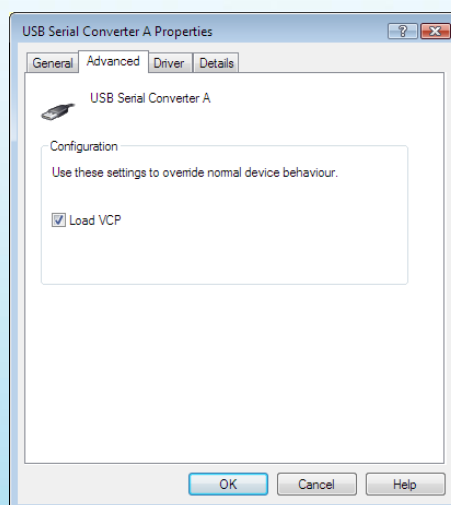

Figure 3-5 USB Serial Converter Properties
- III. Double-click on **each** *USB Serial Converter* entry and under the *General* tab, confirm that the manufacturer is FTDI. Then, under the *Advanced* tab, make sure the *Load VCP* checkbox is ticked (see Figure 3-5). If the checkbox isn't ticked, you will need to tick for each Serial converter and then unplug and re-insert the dock.